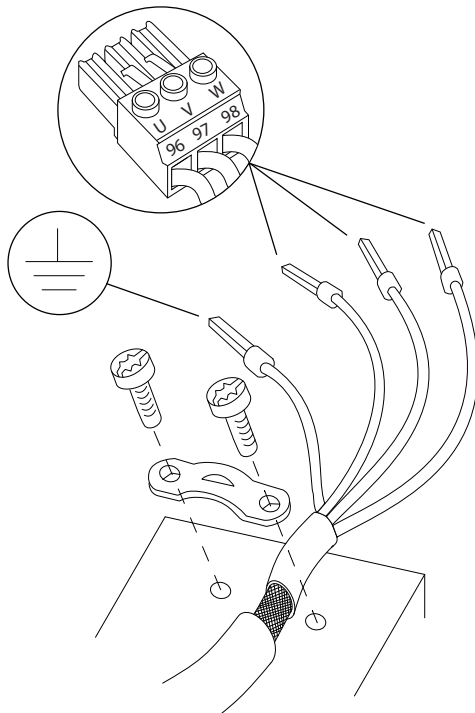

Figure 4.5 Motor Connection
- Connect the ground wire to the nearest grounding terminal in accordance with the grounding instructions provided in chapter 4.3 *Grounding*, see Figure 4.5.
- Connect the 3-phase motor wiring to terminals 96 (U), 97 (V), and 98 (W), see Figure 4.5.